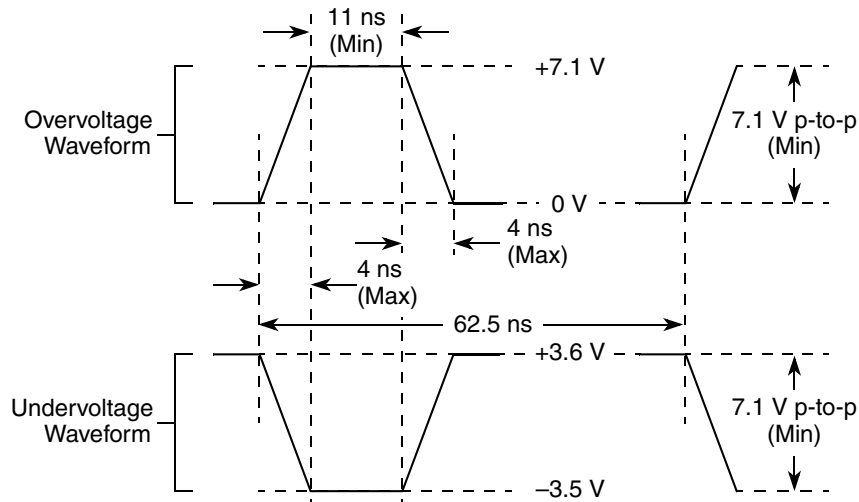

Figure 3. Maximum AC Waveforms on PCI Interface for 3.3-V Signaling
- 6  $OV_{IN}$  on the PCI interface can overshoot/undershoot according to the PCI Electrical Specification for 3.3-V operation, as shown in Figure 3.
Figure 3 shows the undershoot and overshoot voltage of the PCI interface of the MPC8349EA for the 3.3-V signals, respectively.